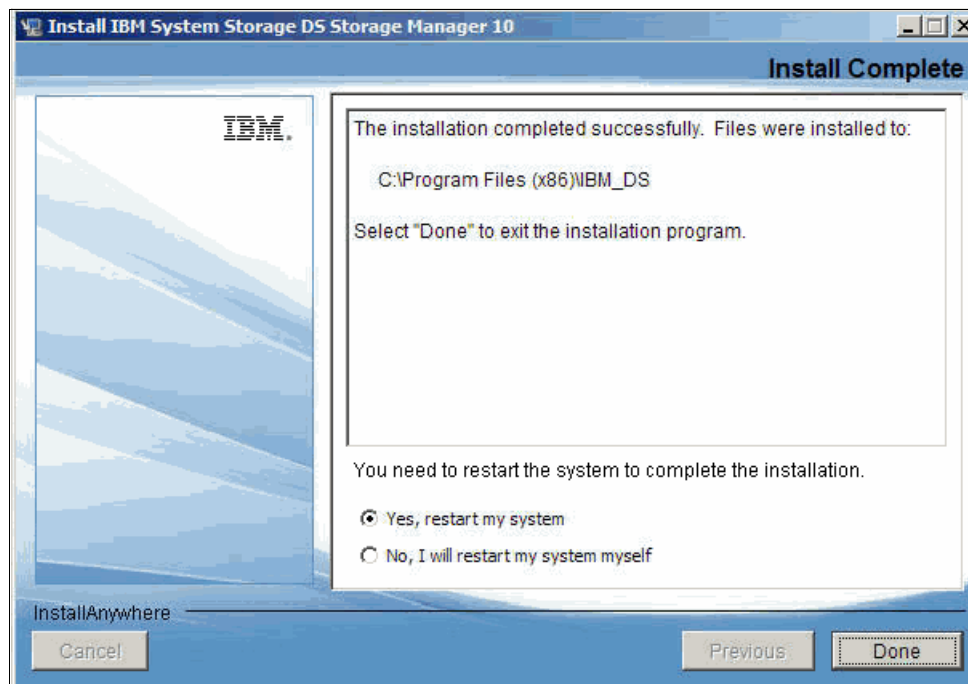

Figure 2-86 IBM System Storage DS Storage Manager 10 - Install Complete
- By selecting the Host option, the installation will include the multipath driver. When the installation is complete, reboot the host as shown in Figure 2-86. It is required to reboot the host to load the drivers needed for the installation.